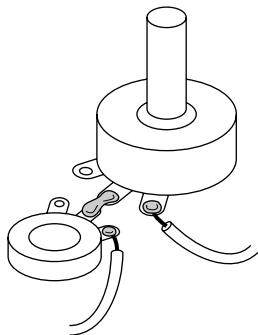

FIGURE 9-23: Solder the pots' middle terminals together and solder a wire to an outside lug of each pot, as shown.
1. Solder a trimmer of the same value (1M) to the full-sized 1M pot, center lug to center lug, and solder a wire to an outside lug of each pot (see Figure 9-23).